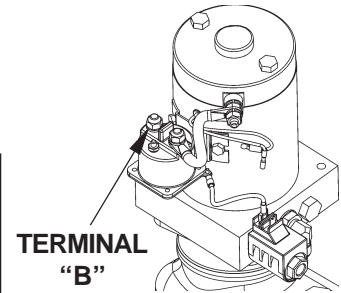

FIG. 63-1
1. Use voltmeter to verify that power is being supplied to Solenoid Terminal "B". Recharge the battery if voltmeter indicates less than 12.6 Volts (**FIG. 63-1**).